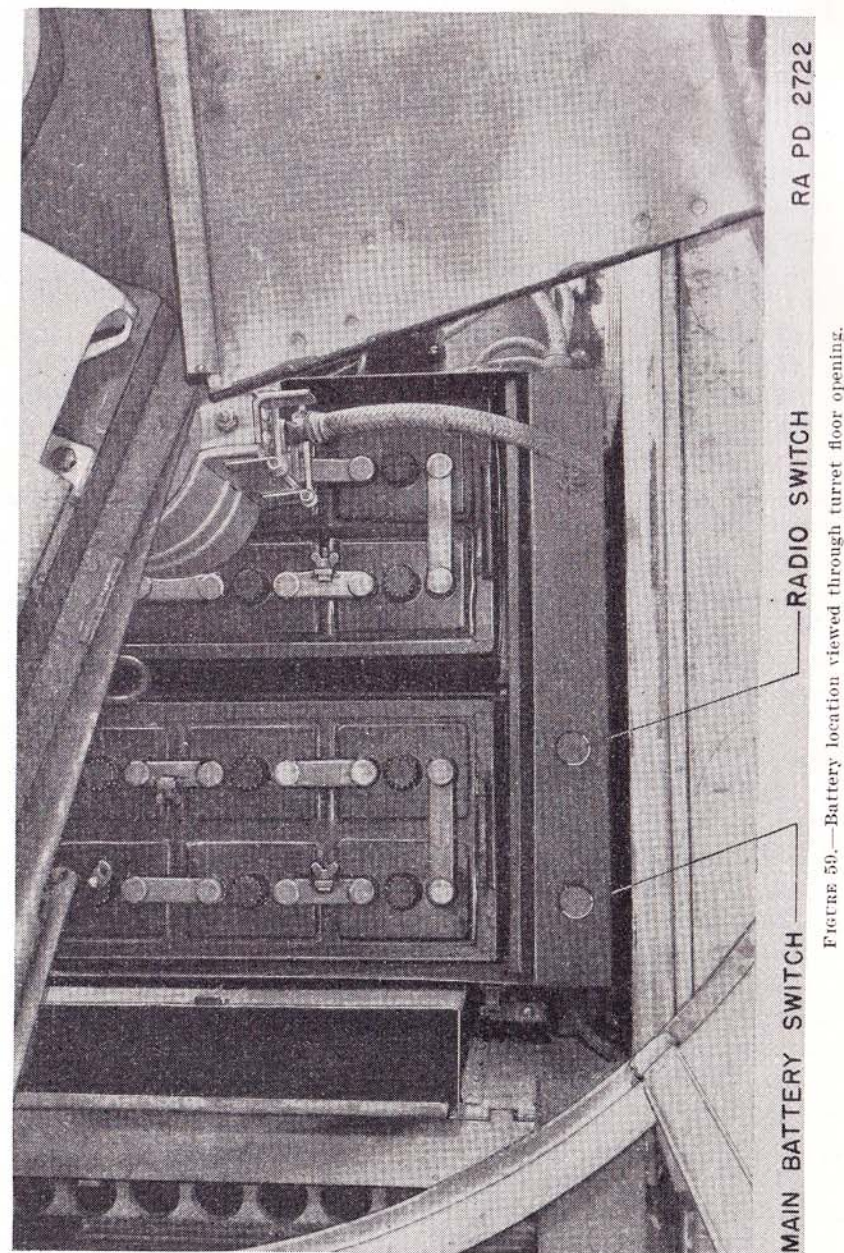
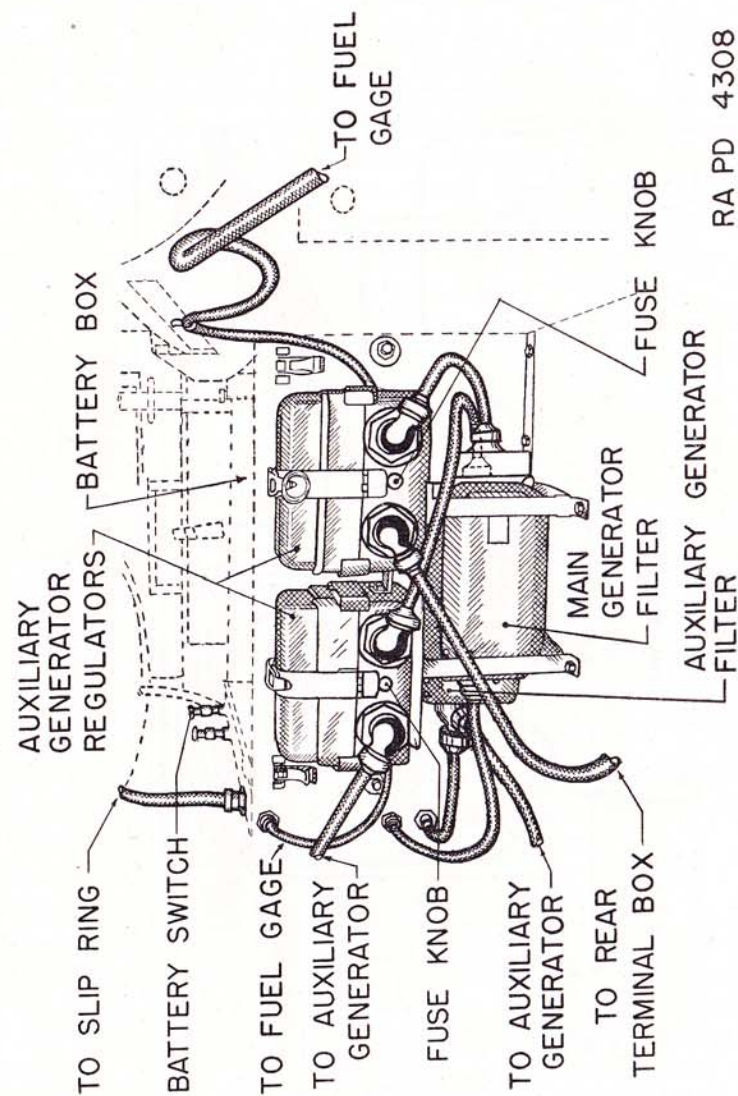

FIGURE 59.—Battery location viewed through turret floor opening.
FIGURE 61.—Generator control boxes and conduits.
**101. Battery (fig. 59).**—*a. Description.*—Two 12-volt storage batteries are connected in series to maintain the voltage of the system
*c. Removal and replacement.*—(1) Open the main battery switch (fig. 59).
- (2) Disconnect the battery cables (check legibility of markings).
- (3) Remove the bracket hold-down bolts.
- (4) Remove the battery through the opening in the turret floor.
- (5) Replace in reverse order.
**102. Battery switch (fig. 59).**—*a.* The battery switch is mounted on the left side of the battery box and is provided to cut off the battery current at its source. A second switch is also provided in the same box for cutting of the radio circuit. To open either circuit, raise the knobs.
*b. To replace battery switch.*—(1) Remove the partition separating battery and switch compartments.
(2) Remove the switch knob by driving out the retaining pin from the handle.
- (3) Remove the terminal nuts and the leads.
- (4) Remove the two retaining bolts.
- (5) Remove the switch.
- (6) Replace in reverse order.
**103. Voltage control (fig. 61).**—*a. Description.*—To prevent overcharging of the batteries, the generator on the engine and the auxiliary generator are equipped with individual generator control boxes. These boxes of the detachable type, are located near the floor of the fighting compartment, behind the battery box, and include a voltage regulator, current limiter, and reverse current relay.
(1) The voltage-regulating unit maintains the output of the generator at a constant predetermined voltage of 28.4 volts. The current output of the generator is automatically varied in accordance with the state of charge of the battery and the amount of current
**104. Generator filter** (fig. 61).—A shielded coil is provided in the generator-battery circuits to reduce radio interference. Separate filters are supplied for the generator on the engine and the auxiliary generator. They are located on the floor of the fighting compartment, behind the battery box.